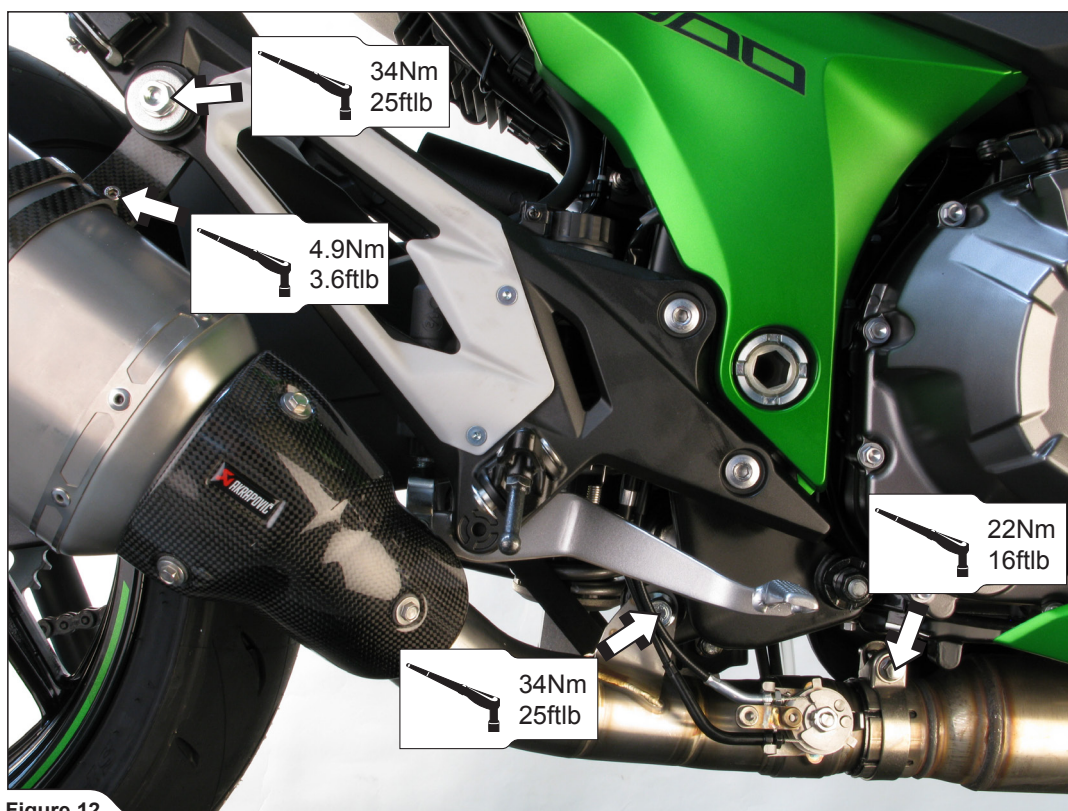

Figure 12
4. Align the muffler in respect to the motorcycle and tighten the muffler's bracket bolt, link pipe's bracket bolt and clamp to the specified torques (Figure 12).